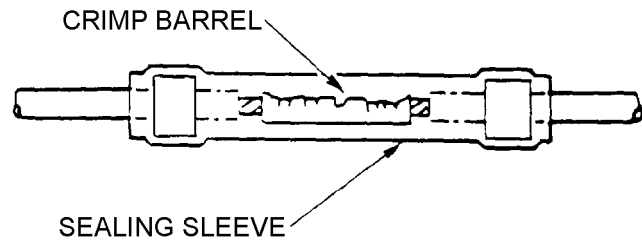

Figure 67. Sealing Sleeve Centered Over Crimp Barrel
75. **Turret.** For proper operation the tool frame must be mated with a turret head (Figure 67) which has a 3 index positioner (Figure 69, Sheet 3).